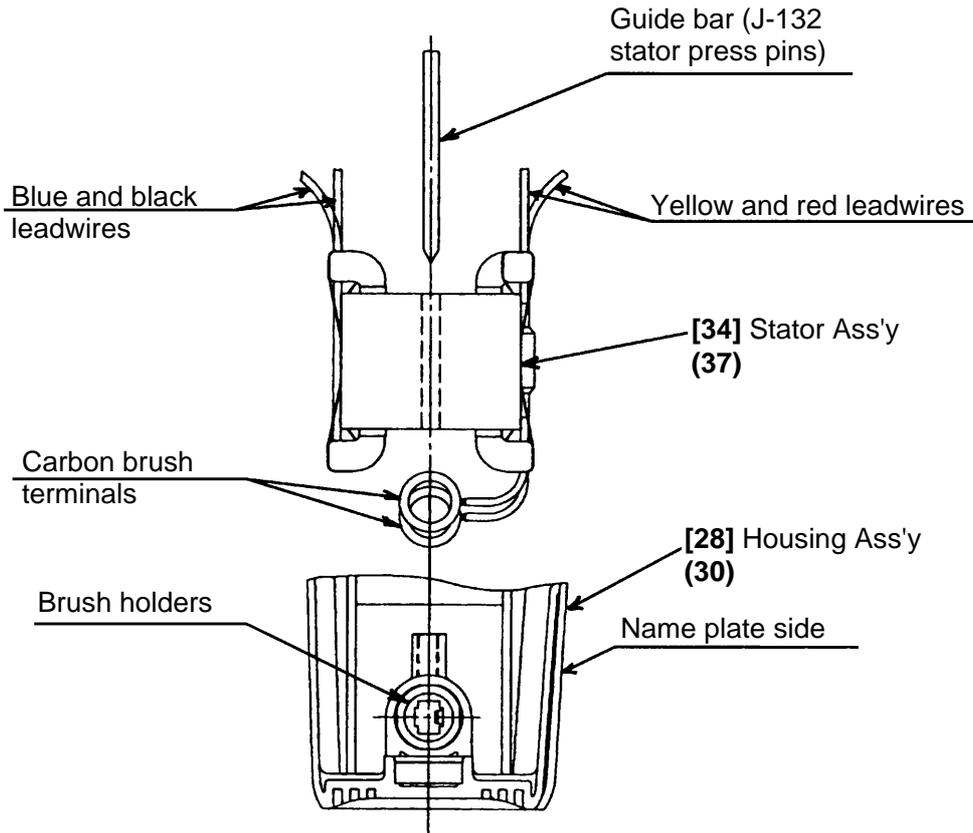
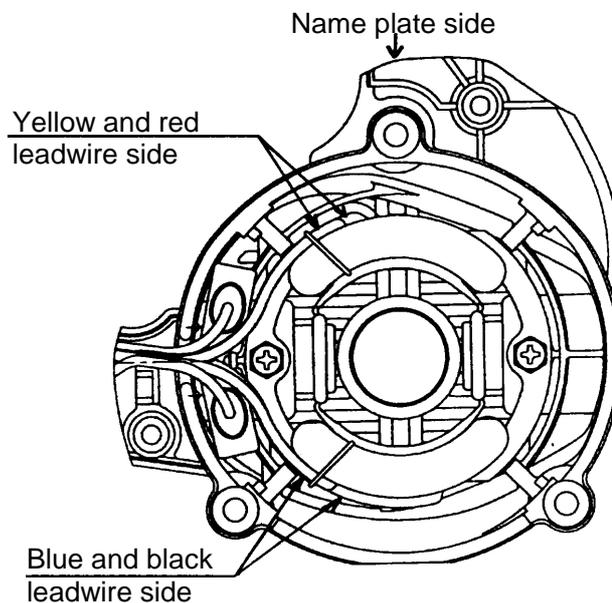

Fig. 8
Fig. 9
(4) Reassembly of the Stator Ass'y [34] (37)
Insert the guide bar [the J-132 stator press pins (special repair tool, Code No. 970911) are recommended] into the screw holes of the Stator Ass'y [34] (37) and the Housing Ass'y [28] (30) to align them accurately and then press-fit the Stator Ass'y into the Housing Ass'y as shown in Fig. 8. Carefully observe the alignment of the Stator Ass'y during the press-fitting so that the yellow and red leadwires face to the Name Plate side as shown in Fig. 9. Then fit the carbon brush terminals on the Brush Holders [42] (45) taking care not to catch the leadwires between the ribs of the Stator Ass'y in the Housing Ass'y. Fix the Stator Ass'y to the Housing Ass'y with the two D5 x 55 Hex. Hd. Tapping Screws [53] (55).